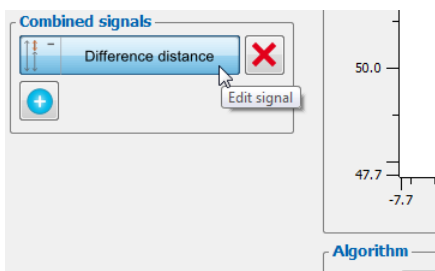

Fig. 5.7: Defining a new signal for calculation - step 4
- ▶ Press the button of the active signal (marked in blue, see Fig. 5.7) in the "Combined signals" input field to finish defining the new signal. This takes you back to the overview; all the signals defined for calculation are shown.